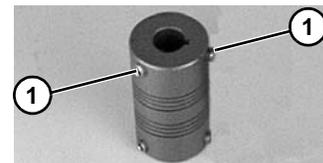

Figure 21
<p>Coupling has two (2) set screws (Figure 21, item 1).</p>
Coupling has two (2) set screws (Figure 21, item 1).